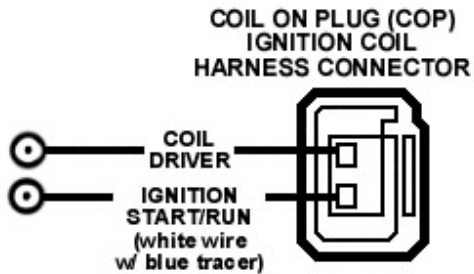

Figure 12—Coil On Plug—(1999 ½ & up)
4. **COIL ON PLUG**—The white wire of the RPM window switch needs to be connected to the negative side (coil driver) of one ignition coil. Choose the coil that best fits your wiring harness layout. Each ignition coil is supplied with a two-wire harness. Identify the color of the wires on at least 3 coils. One wire of the harness to each coil will have the same color from coil to coil. This is the ignition start/run wire. **Do not use this wire.** Use the other wire, which is the negative lead. The negative wire is the smaller gauge wire and color-coded differently for each coil to differentiate their cylinder location and the firing order of the engine. Any cylinder coil may be used, depending on the desired mounting location of the window switch. Use one of the T-tap terminals included and connect it to the negative coil wire. See Figure 12.